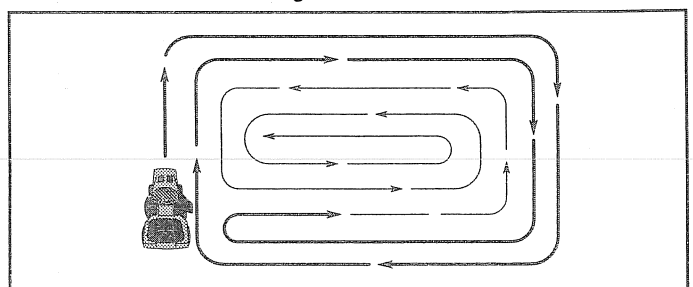

FIG. 13
- When mowing large areas, start by turning to the right so that clippings will discharge away from shrubs, fences, driveways, etc. After one or two rounds, mow in the opposite direction making left hand turns until finished (See Fig.13).